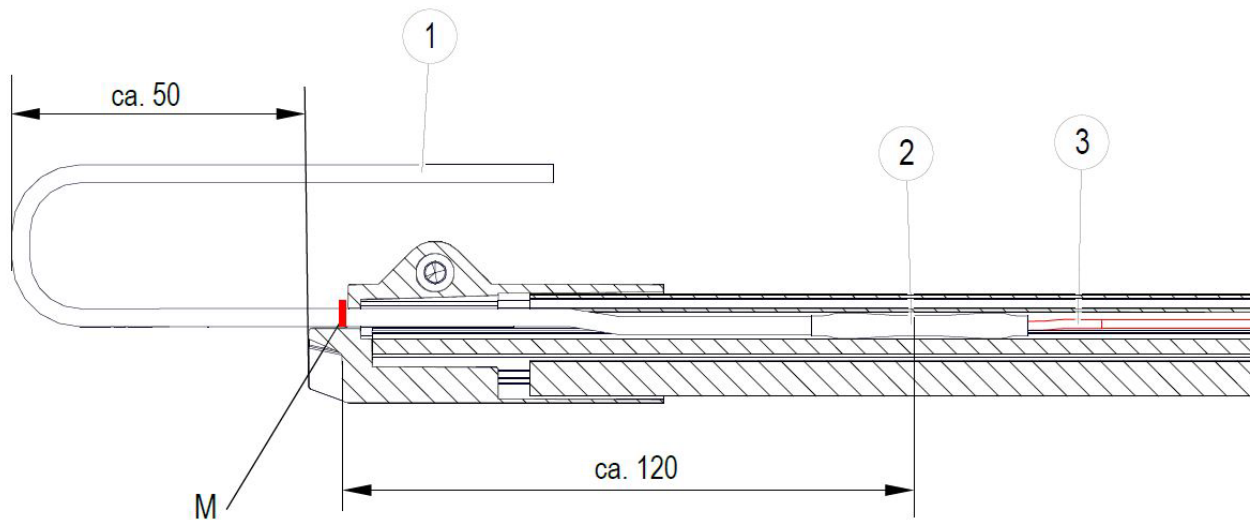

Fig. 40: Overview of the crimp connection and bend projection of the cold connection cable at the rail end
After the strain relief, the marking (M) at the outer edge of the end cap must be visible and the bend projection of the cold connection cable at the end cap should be approx. 50 mm. (see Fig. 40). Ensure that no cables enter the range of movement of the consumers or other moving parts.